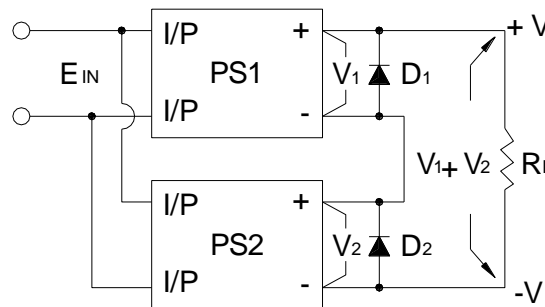

Figure 7.11: Series connection by adding external reverse blocking diodes
(2) Increase the output voltage (current does not change). If there is no reverse blocking diode in the power supply, we should add an external blocking diode to prevent the damage of power supply while starting up. The voltage rating of the external diode should be larger than  $V_1+V_2$  (as figure 7.11).